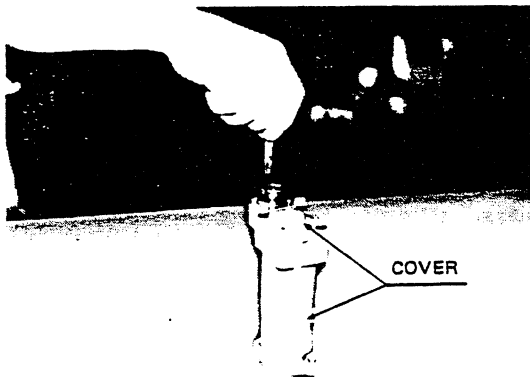

Fig. 5-16
- (8) Remove O-ring (16), wiper (17) and the seal plate from the plunger. (Do not disassemble plunger head (11).)
- (9) Do not disassemble the detent unit, unless a specific abnormality is observed. Remove the cover by loosening the capscrew as shown in Fig. 5-16.